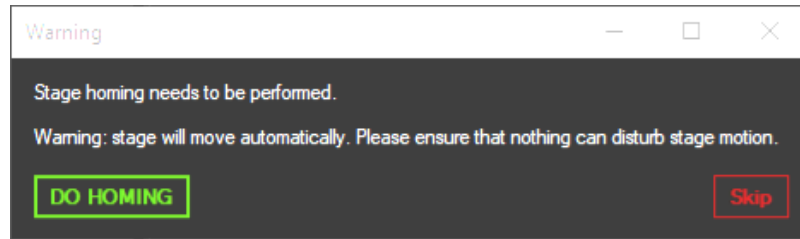

Figure 13 - Homing warning message
- Click on the **DO HOMING** button on the homing warning message (Figure 13) and wait the end of the procedure.